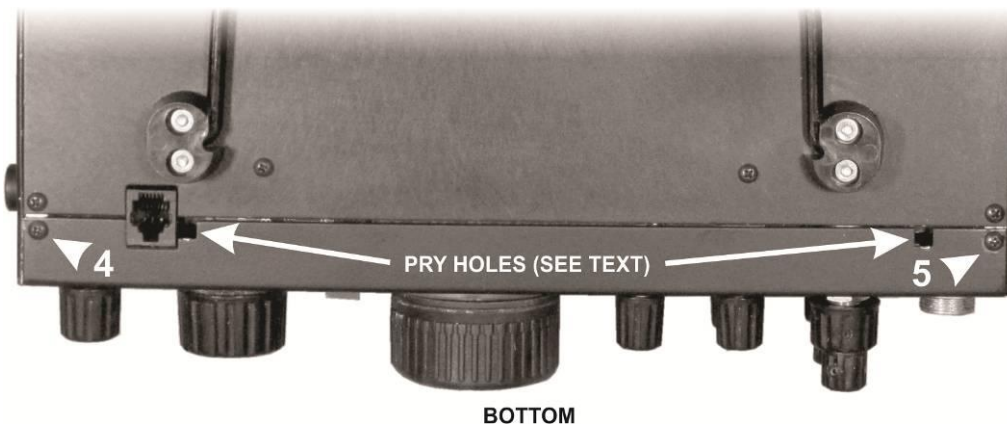

Figure 6. Removing the Bottom Front Panel Screws.
- ☐ Turn the K3/K3s over and remove the two screws on the bottom shown in Figure 6